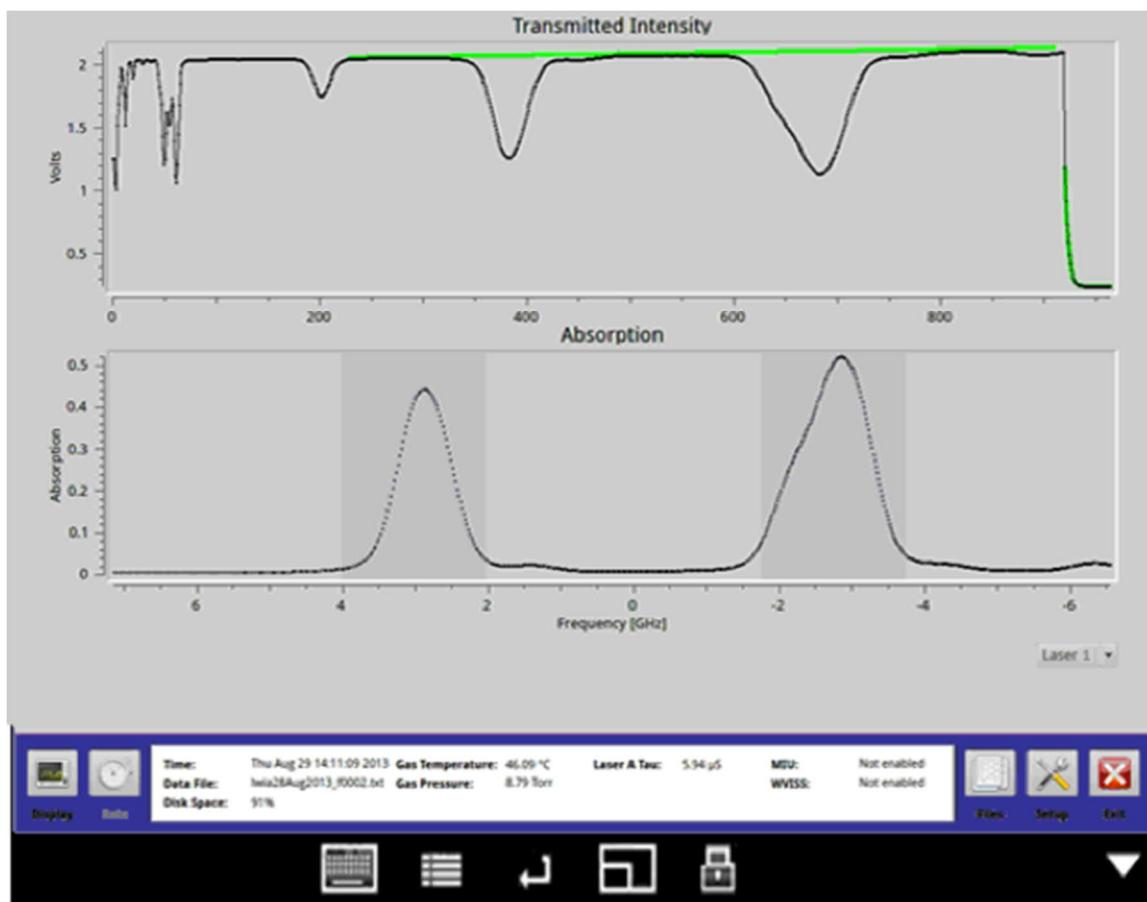

Figure 73: Analyzer Software Interface Screen (Size Adjustment for iOS Devices)
15. To connect the iOS device to the analyzer, tap the IP Config you set up. The analyzer software will display on the device. (Figure 73) The screen size is adjustable to fit the screen of the device.